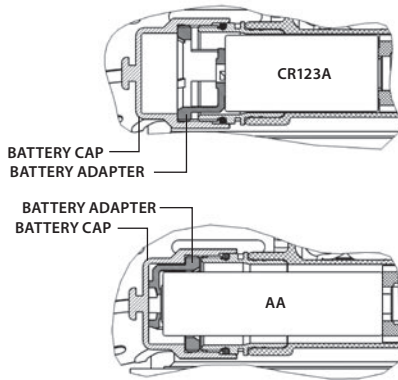

FIGURE 3-2. BATTERY ADAPTER POSITIONS IN THE BATTERY CAP
1. Unscrew the battery cap (E) and check the position of the battery adapter (D). See Figure 3-2 for the correct positioning of the threaded battery adapter, which changes depending on the battery being installed.
3. Install the battery (C) into the battery compartment (B). Follow the battery symbol (A).
4. Replace the battery cap (E).